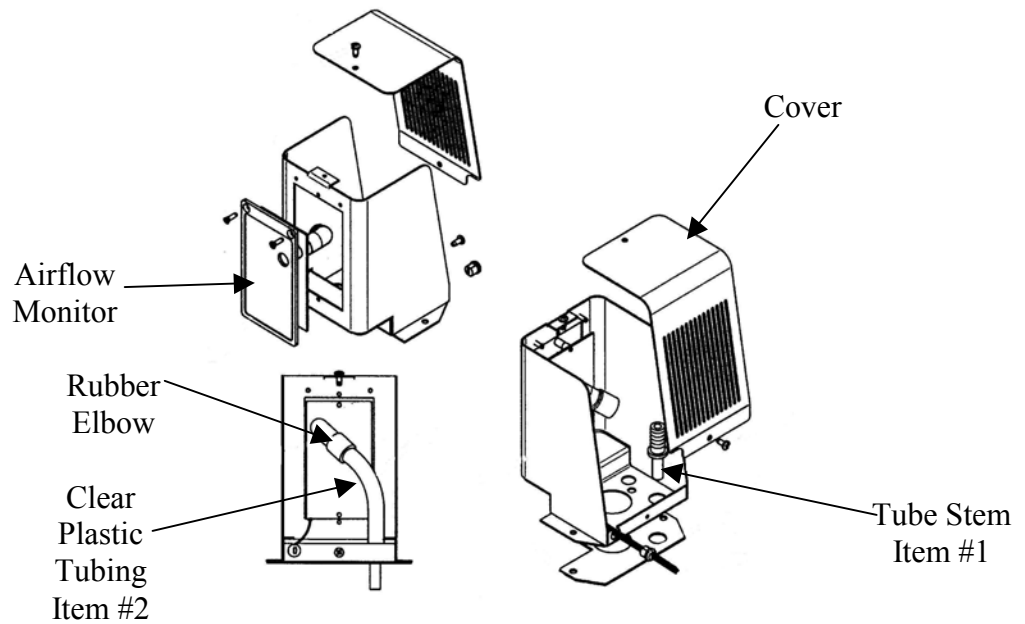

Figure 6-3
See Figure 6-3 for steps 3 through 9.
4. Temporarily remove the tube stem, Item 1 in Figure 6-3, and clear plastic tubing, Item 2.